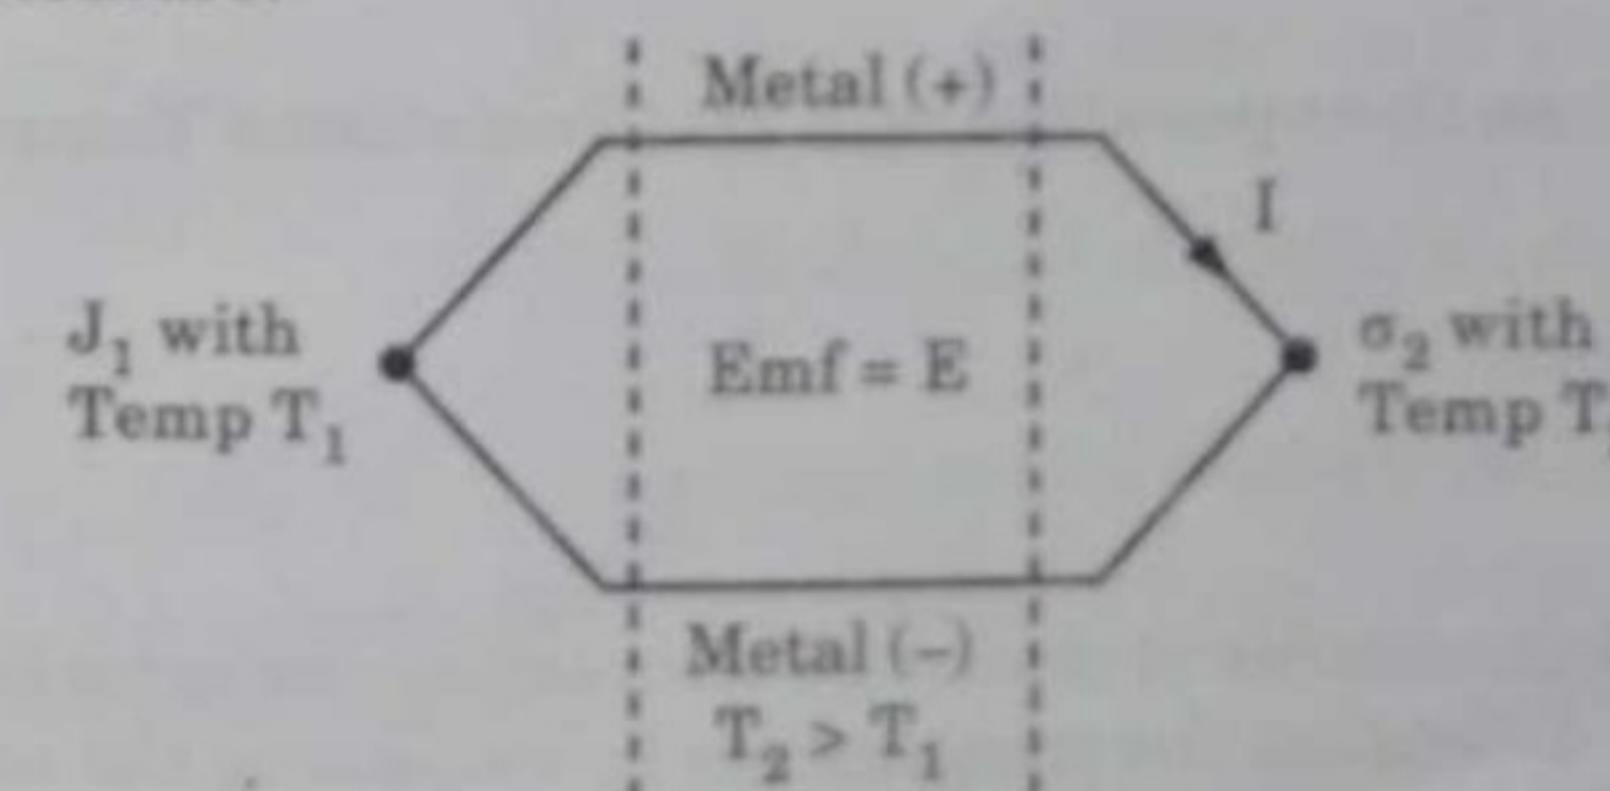

Fig. 2.3.1.
1. In Fig. 2.3.1, when heat is applied to any one junction J_1 or J_2 , of two dissimilar metals an emf or voltage is produced which is to be measured at the other junction.
3. Hence, a current (I) flows in the circuit. This current flows in the circuit as long as $T_1 > T_2$. The T_1 and T_2 are the temperatures at the junctions.